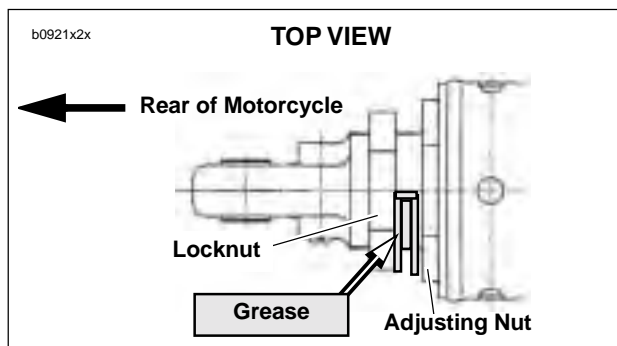

Figure 1-33. Applying Grease to Shock
4. See Figure 1-33. When preload adjustments have been made, apply wheel bearing grease halfway around the shock (180 degrees) to the mating faces of the locknut and adjuster nut and the first few threads on the aluminum body leading to the adjuster nut.